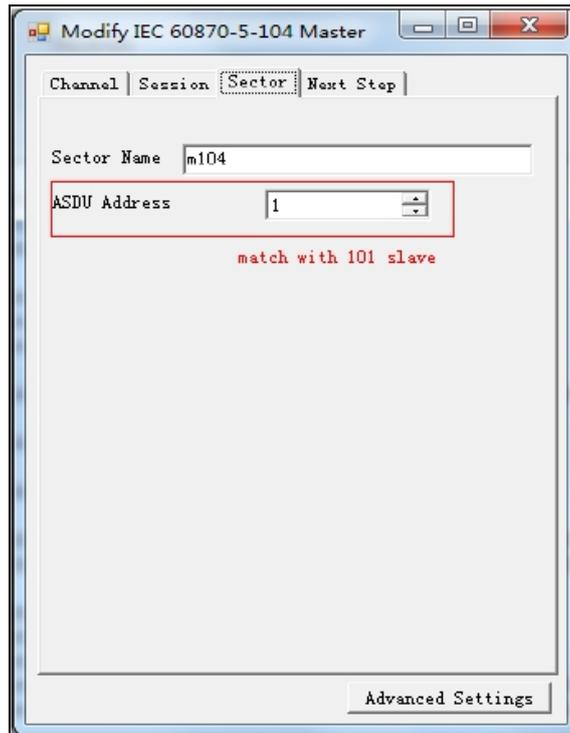

Figure 2-27 104 master station setting 3
3) Set ASDU Address to be the same as that on the 101 slave station (choose **101 parameters > Other**). The common 101 address must be the same as the ASDU address of the 101 slave station), as shown in Figure 2-27.